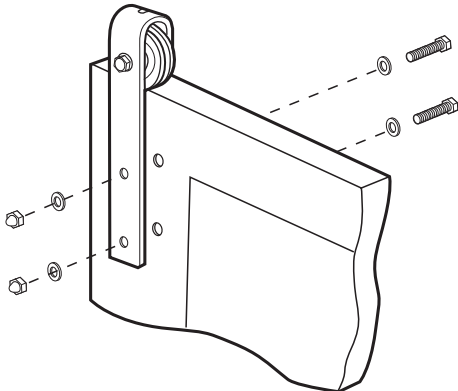

Figure 9
The door stiles (A) have pre-drilled holes located at the top for the roller bracket (O) installation. Separate the bolts from the decorative nuts on one of the roller brackets (O). Line up the pre-drilled holes in the stile with those on the roller bracket. Reinsert the washers/bolts through the hole in the back of the door. Then re-attached the washer/decorative nuts onto the bolts on the front of the door and tighten with wrench to secure. See Figure 9. Repeat steps for the second roller bracket.